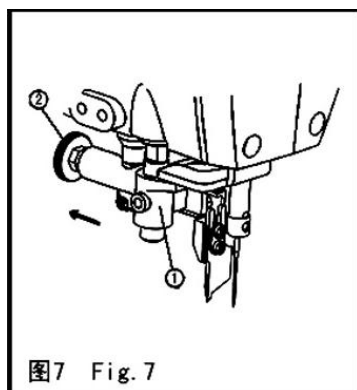

图7 Fig. 7
1. 切刀的操作: (图 7) 当要使用切刀时, 请按下切刀座①、机器运转时就能驱动切刀运动。要停止使用切刀换成普通平缝时, 请拉动切刀离合销旋扭② (按图示方向), 切刀座就弹上, 切刀停止动作。要使切刀脱离, 请在机器停止后操作。
1. Operation of the cutting knife : (figure 7) when the cutting knife is to be used, press the cutting knife holder, the machine can drive the cutting knife movement. When you want to stop using the cutter and replace it with an ordinary flat seam, please pull the clutch pin twist of the cutter (according to the direction shown in the picture), the cutter seat will spring up and the cutter will stop. To disengage the cutter, operate after the machine stops.